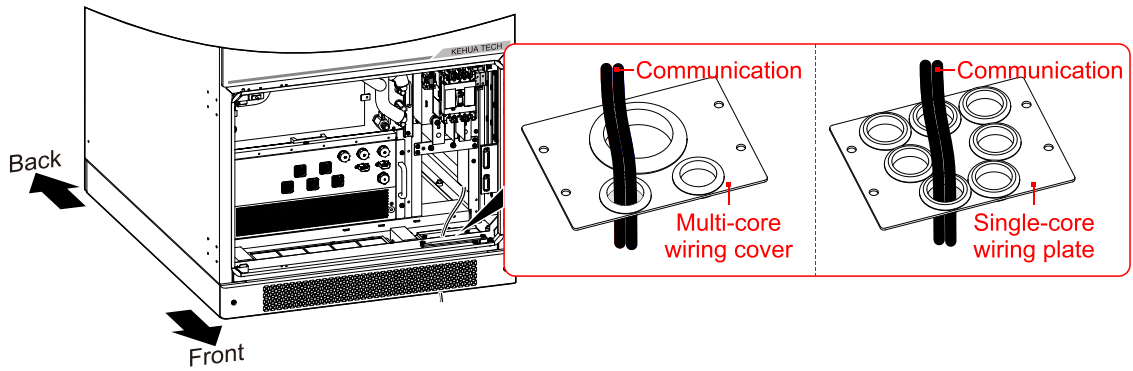

Figure4-30 Wiring hole diagram
Step 1 Lead the Network signal SPD LAN cables go through the bottom wiring hole, as shown in Figure4-30.